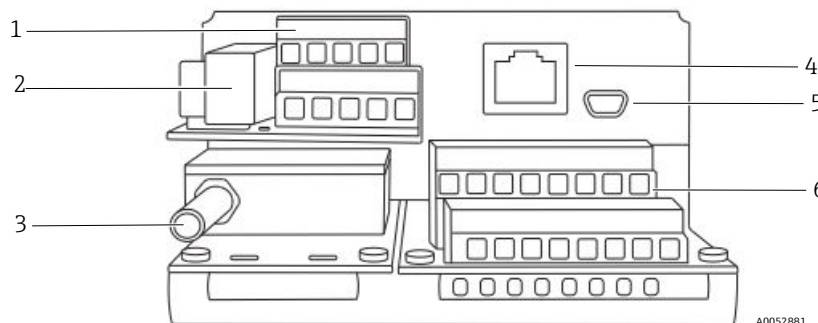

Figure 9. Analyzer connections
The fiber optic oxygen cable to the SMA connector, located at the bottom of the OXY5500, will be installed at the factory. Additional connectors are available as shown in Figure 9.
5. Connect the 4-20 mA current loop IOUT1/IOUT2 output wires to terminals 6 and 8, as shown in Figure 9 and the table.